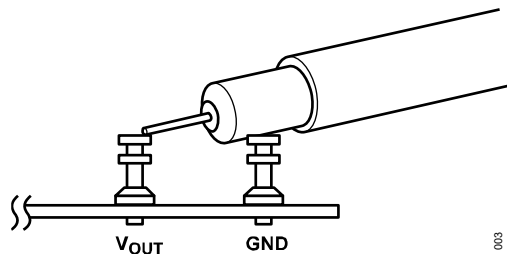

Figure 3. Scope Probe Placement for Measuring Output Ripple Voltage
6. Once the input and output voltages are properly established, adjust the input voltage between 6V to 14V max and the total load current within the operating range of 0A to 125A max. Observe the output voltage regulation, output voltage ripples, switching node waveform, load transient response, and other parameters. See Figure 3 for proper output voltage ripple measurement.
To measure the input/output voltage ripples properly, do not use the long ground lead on the oscilloscope probe. See Figure 3 for the proper scope probe technique. Short, stiff leads need to be soldered to the (+) and (–) terminals of an input or output capacitor. The probe's ground ring needs to touch the (–) lead, and the probe tip needs to touch the (+) lead.